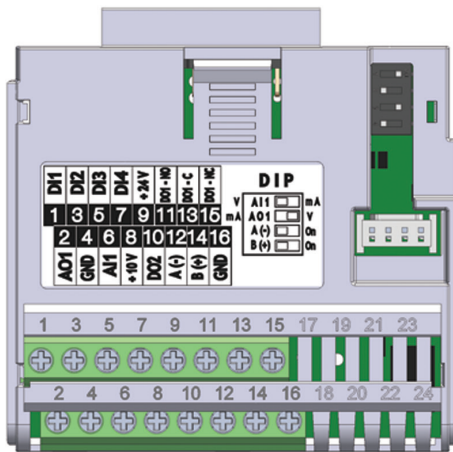

Figure 19.1: Plug-in module CFW500-IOS
The CFW500-IOS plug-in module has only Serial (1) interface through RS-485 port at terminals 12 (A-) and 14 (B+), see Figure 19.1 on page 19-1.